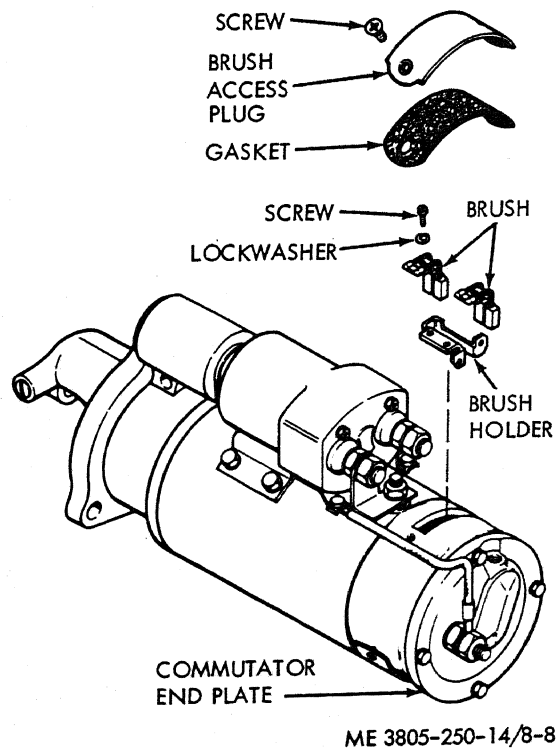

Figure 8-8. Starter brush replacement.
(1) Remove the brush access plug (fig. 8-8) and disconnect the field winding leads from the brush holder. Tag leads for proper installation.
(2) Remove four screws and lockwashers securing the commutator end plate to the starter housing. Discard the gasket.